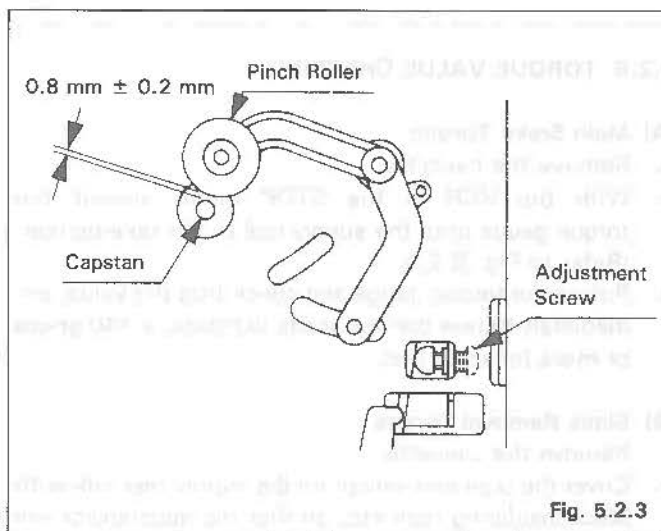

Fig. 5.2.3
2. Measure the clearance between the capstan and the pinch roller. It should be **0.8 mm  $\pm$  0.2 mm**. (Refer to Fig. 5.2.3)